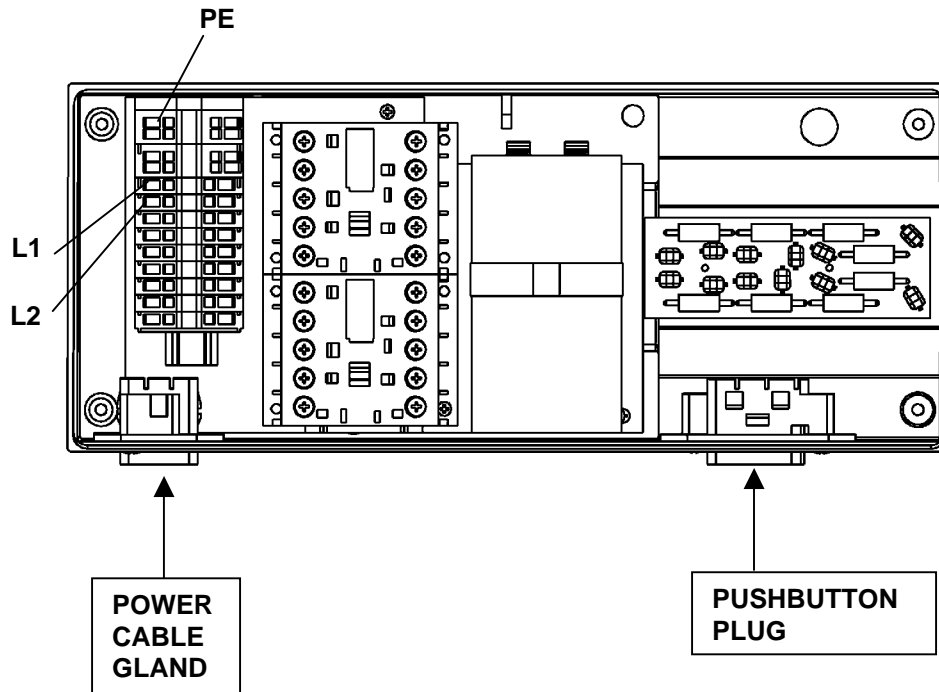

Figure 2.2
2. Insert power supply cable through power cable gland (Figure 2.2).
3. Connect power leads L1 and L2 to terminal strip (Figure 2.2).
4. Connect ground wire PE to terminal strip (Figure 2.2). Refer to wiring diagram.
6. Tighten cable gland or connector (Figure 2.2) to secure power cable.
8. Attach pushbutton assembly to plug (Figure 2.2).